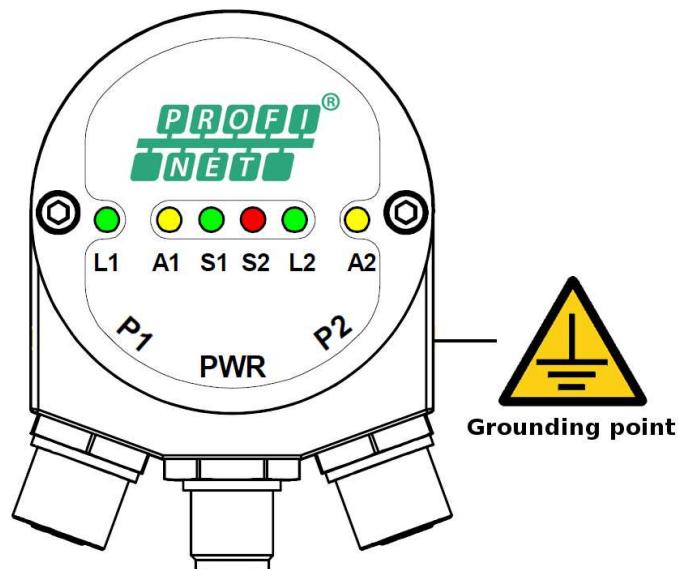

Figure 1 - Connectors and diagnostic LEDs
4.1 PWR Power supply connector (Figure 1)
4.2 P1 Port 1 and P2 Port 2 connectors (Figure 1)
4.3 Ground connection (Figure 1)
To minimize noise connect properly the shield and/or the connector housing and/or the frame to ground. Connect properly the cable shield to ground on user's side. Lika's EC- pre-assembled cables are fitted with shield connection to the connector ring nut in order to allow grounding through the body of the device. Lika's E- connectors have a plastic gland, thus grounding is not possible. If metal connectors are used, connect the cable shield properly as recommended by the manufacturer. Anyway make sure that ground is not affected by noise. It is recommended to provide the ground connection as close as possible to the device. We suggest using the ground point provided in the cap (see Figure 1, use 1 TCEI M3 x 6 cylindrical head screw with 2 tooth lock washers).
4.5 Diagnostic LEDs (Figure 1)
Six LEDs located in the cap of the encoder (see Figure 1) are meant to show visually the operating or fault status of the encoder and the Profinet interface. The meaning of each LED is explained in the following tables.